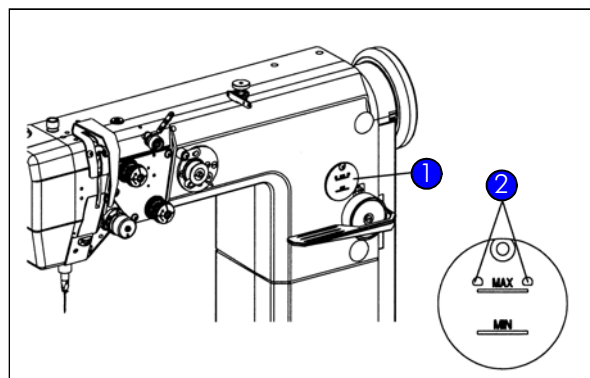

Figure 44 Upper section oil reservoir
- ▶ Check the oil level ① of the central lubrication in the sewing machine's upper section, see Figure 44.
- ▶ If required, fill the oil reservoir until the **MAX** ② mark. Only use oil in accordance with the specifications listed in chapter 3.